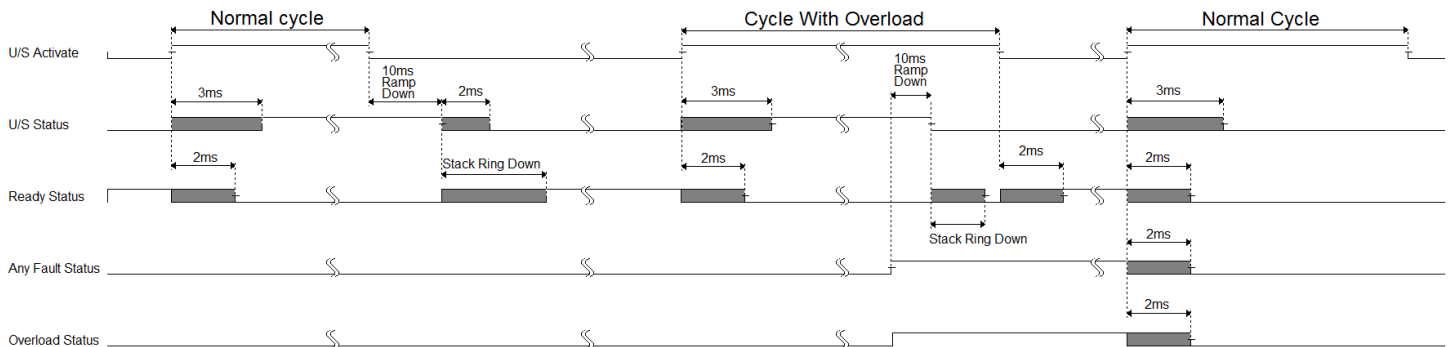
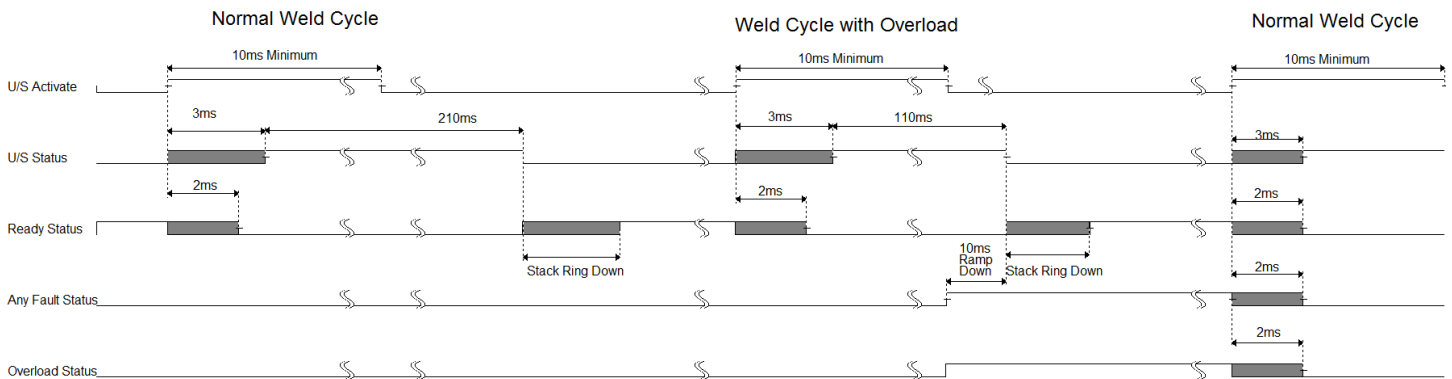

Figure 1: AiM Weld-by-Automation Cycle Timing Diagram
Figure 2: AiM Weld-by-Time Cycle Timing Diagram
**The Ready Status Output:** The Ready Status output is used to determine if the generator is ready to start a new weld cycle. As shown in Figure 1, the Ready Status output requires a minimum of 2ms to change to its deactivated state after the U/S Activate input is activated. At the end of a normal cycle, the Ready Status output requires a minimum of 12ms to change to its activated state after the U/S Activate input has deactivated. It is possible that the stack ring down time (stack stops vibrating), which is stack and application dependent, will make this time much longer. For correct operation, a PLC controlling an AiM generator must account for this timing shown below before checking the Ready Status output.
**The U/S Status Output:** The U/S Status output is used to determine when the generator ultrasound output to the ultrasonic stack is active. As shown in Figure 1, the U/S Status output requires a minimum of 3ms to change to its on state. At the end of a normal cycle, the U/S Status output requires a minimum of 12ms to change to its deactivated state after the U/S Activate input has deactivated. For correct operation, a PLC controlling an AiM generator must take into account the timing shown in Figure 1 before checking the U/S Status output.
**The Any Fault and Overload Status Outputs:** The Any Fault Status output is used to determine when the generator has terminated the weld cycle due to fault such as an overload as shown in Figure 1. When a Peak Overload occurs, the Any Fault and Overload Status outputs activate at the same time. If the overload is an Average Overload the U/S Status output will not deactivate until after the 10ms ramp down completes. The Ready Status output will not activate until the U/S Activate input is turned off, but may take up to 2ms to change to its on state. Due to stack ring down it may be longer before Ready Status changes state. The Any Fault Status output will deactivate the next time the U/S Activate input is turned on, but is delayed up to 2ms. For correct operation, a PLC controlling a AiM generator must take into account the timing shown below before checking the Any Fault, Overload, U/S, and Ready Status outputs.
**The Ready Status Output:** As with Weld-by-Automation, the Ready Status output should be used to determine if the generator is ready to start a weld cycle. Figure 2 shows that the Ready Status output requires a minimum of 2ms to change to its off state after the U/S Activate input is activated. At the end of the weld time in a normal weld cycle, there is a 10ms Ramp Down followed by any remaining stack ring down time. Since stack ring down time is stack and application dependent it may make this time much longer. Ready Status output activates a minimum of 2ms after ramp down or when the ring down time is complete, whichever occurs last. For correct operation, a PLC controlling an AiM generator must account for the timing shown in Figure 2 before checking the Ready Status output.
**The U/S Status Output:** The U/S Status output is used to determine when the generator has activated its ultrasound output to the ultrasonic stack. As shown in Figure 1, the U/S Status output requires a minimum of 3ms to change to its activated state. The U/S Status output will deactivate when the weld time plus the ramp down completes and will take up to 2ms to change to its deactivated state. For correct operation, a PLC controlling an AiM generator must account for the timing shown in Figure 2 before checking the U/S Status output.
**The Any Fault and Overload Status Outputs:** The Any Fault Status output is used to determine when the generator has terminated the weld cycle due to fault such as an overload as shown in Figure 1. When a Peak Overload occurs, the Any Fault and Overload Status outputs activate at the same time. If the overload is an Average Overload the U/S Status output will not deactivate until after the 10ms ramp down completes. The Any Fault Status output will deactivate the next time the U/S Activate input is activated, but is delayed up to 2ms. The Ready Status output has the same timing as in the normal weld cycle. A PLC controlling an AiM generator must take into account the timing shown in Figure 2 before checking the Any Fault, Overload, U/S, and Ready Status outputs.